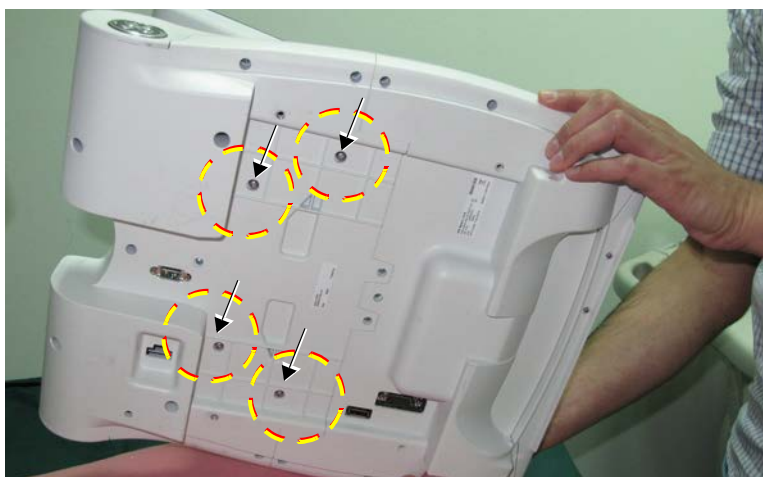

Figure 8-180 Four Screws Securing the Touch Screen Chassis
5.) From the bottom of the keyboard assembly, unscrew the four screws shown in Figure 8-180.